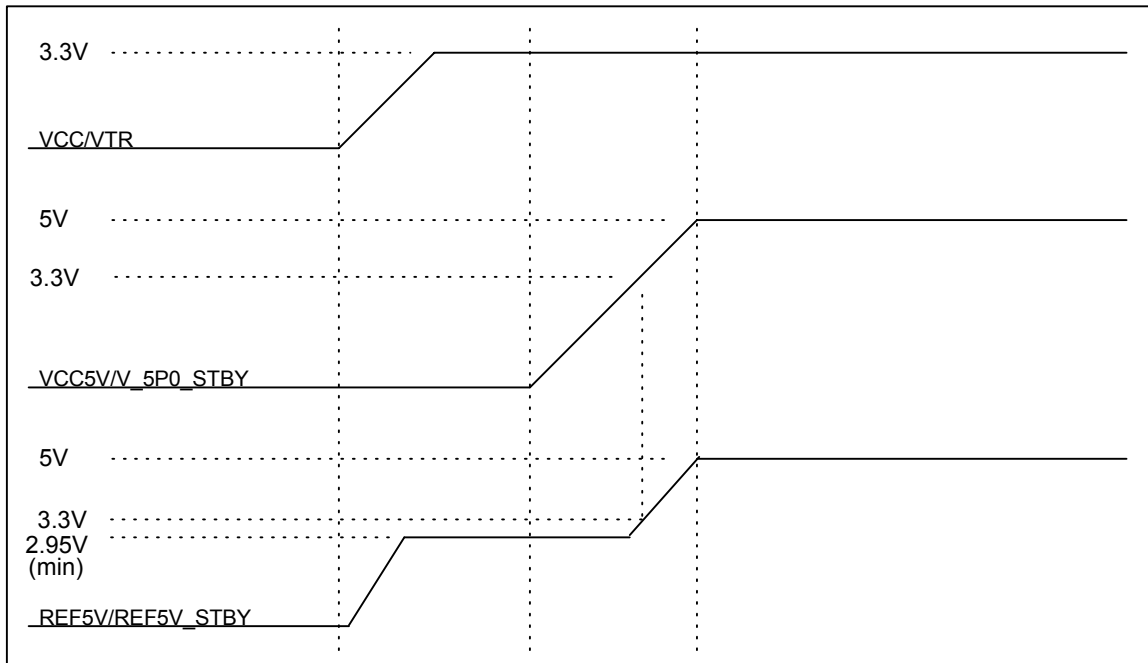

Figure 13.25 – REF5V/REF5V\_STBY Output When VCC/VTR Ramps Up Before VCC5V/ V\_5P0\_STBY
**Note:** The value 2.95V minimum in Figure 13.25 is (3.3 Supply Voltage – 350 mV).